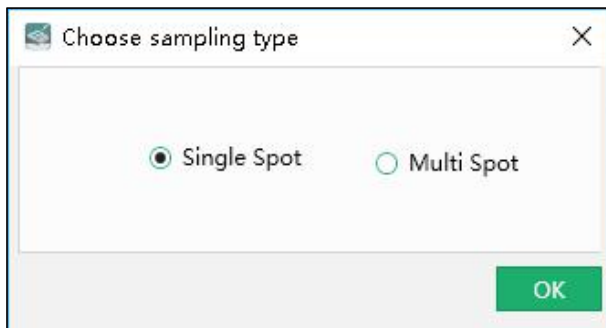

Figure 5.19 Sampling Type Checkbox
2) After choosing sampling scheme, a dialog box will be popped out, showed as figure 5.19.